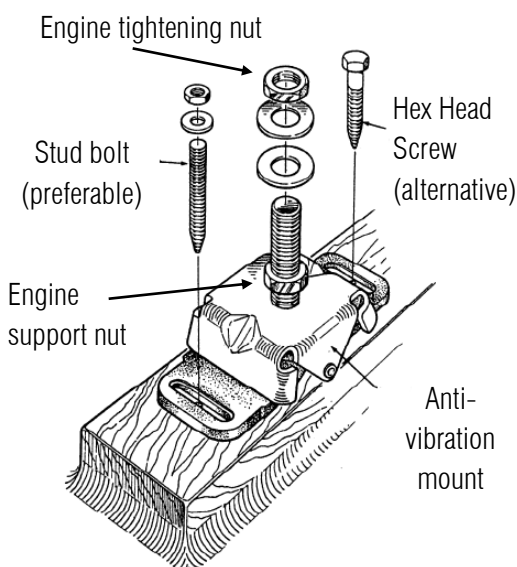

Figure 10 - Anti-vibration mounts
The anti-vibration mounts are made as in Figure 10:
5. Adjust the height of all supports acting on the engine support nut (see Figure 10 on page 14) in such a way that the alignment is as in the image above (perfect alignment).